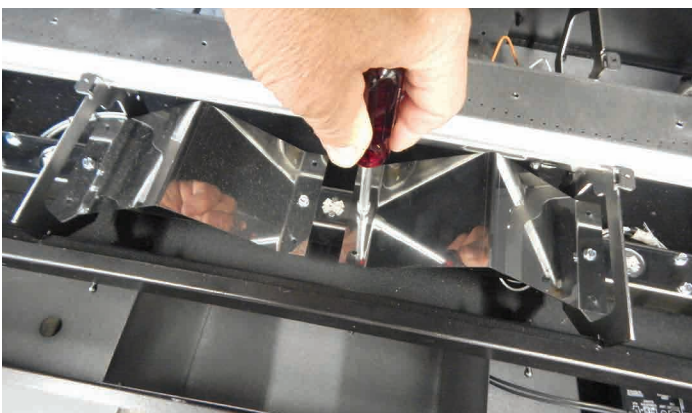
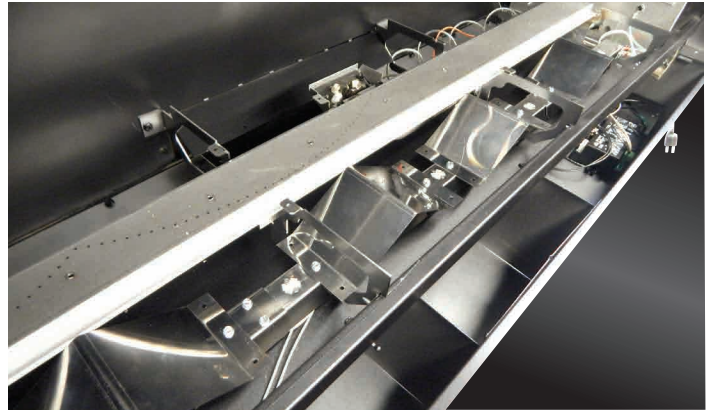

Figure 11
Figure 12
- Attach the "V" shaped Deflectors to the Light bracket assembly. Two are required between the center burner brackets if installing in the DVLL36BP fireplace. Four "V" shaped Deflectors are to be installed when installing in the DVLL48BP fireplace. The Deflectors are placed between the light sockets and secured with (2) # 8 x 1/4" Screws each. **See Figure 11** for DVLL36BP install, and **Figure 12** for DVLL48BP install.